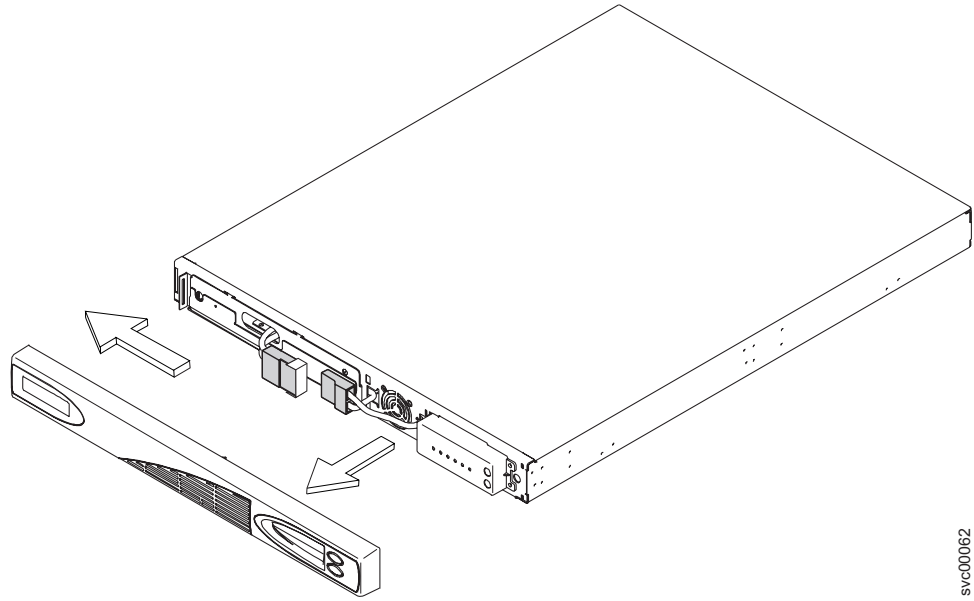

Figure 143. Removing the 2145 UPS-1U front panel
5. Remove the 2145 UPS-1U front panel by pulling it towards you and to the left. See Figure 143 on page 361.